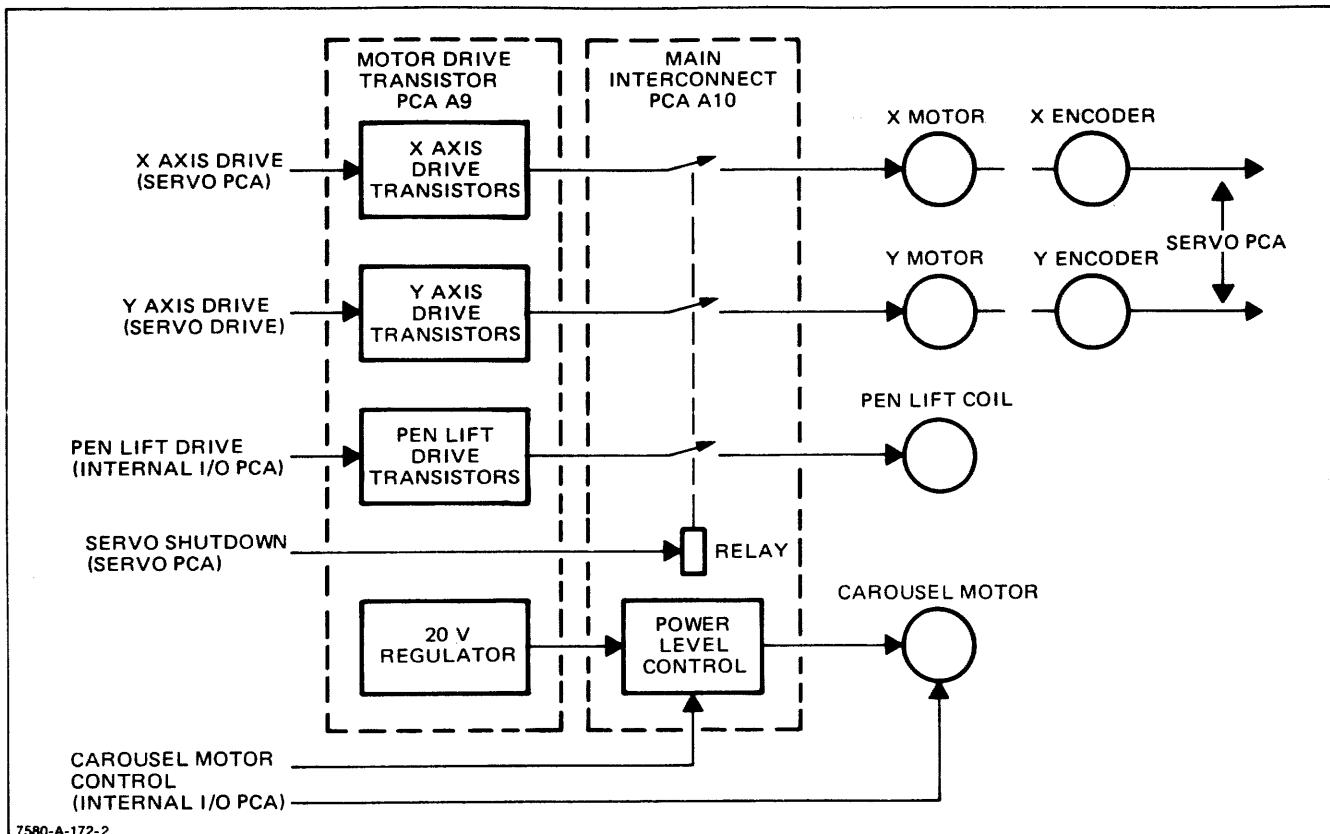

Figure 6-7. Motor Drive Circuits Simplified Block Diagram
**6-90.** Amplifier U23C, transistors Q5 and Q7, and transistors Q3 and Q4 on the Motor Drive Transistor PCA comprise the Y servo amplifier. Its operation is similar to that of the X servo amplifier. A simplified diagram of the motor drive circuitry is shown in Figure 6-7.